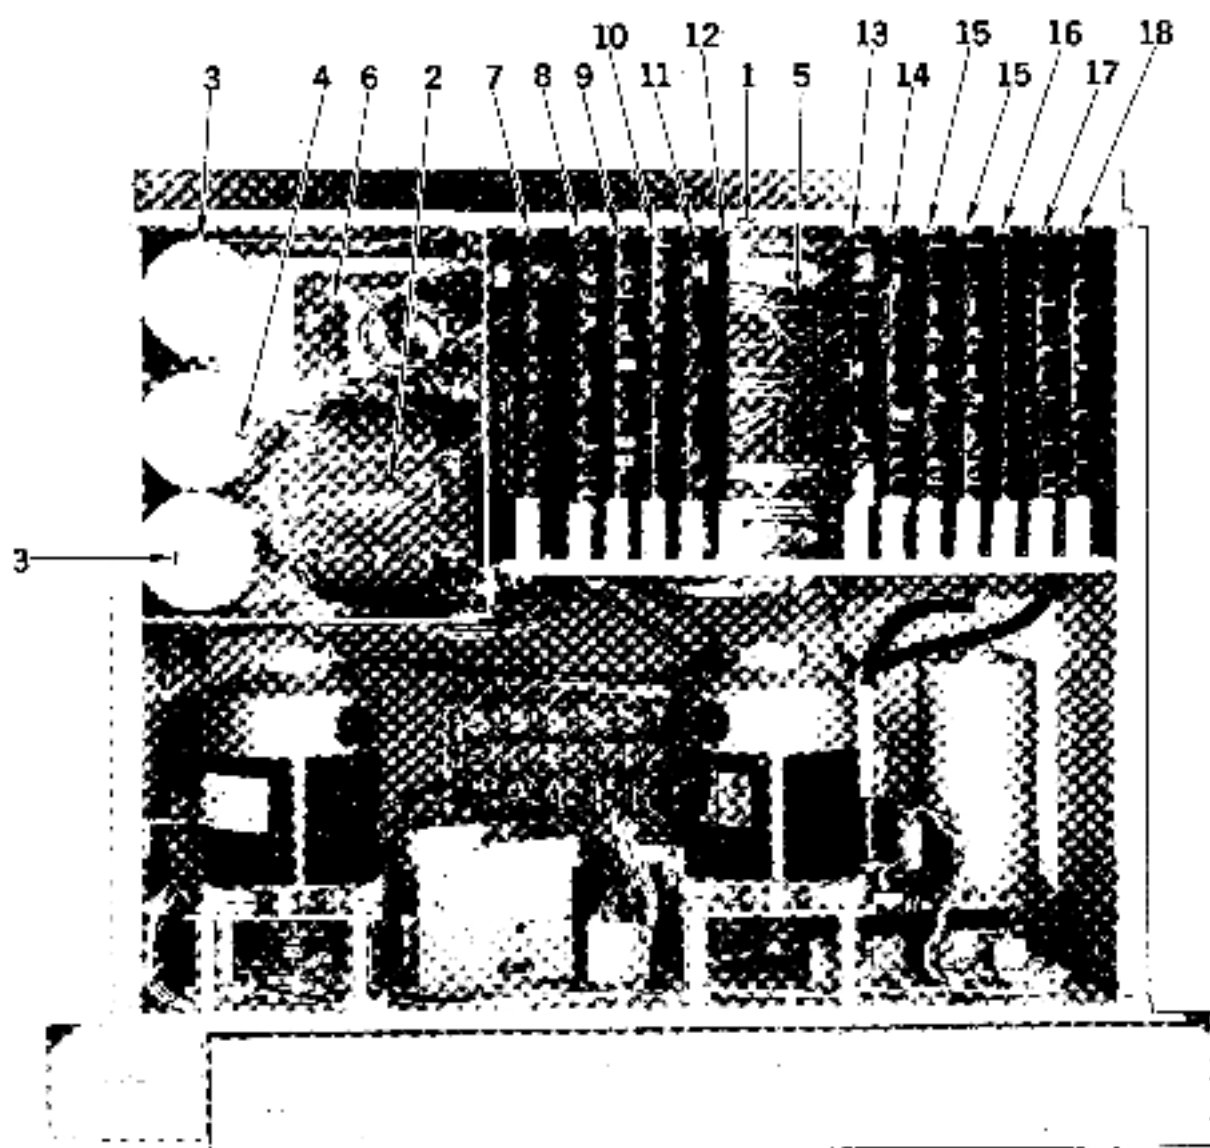

Figure 4-2 Tape Transport Parts Identification (Top View)
**Illustrated Parts Breakdown for Figure 4-2**